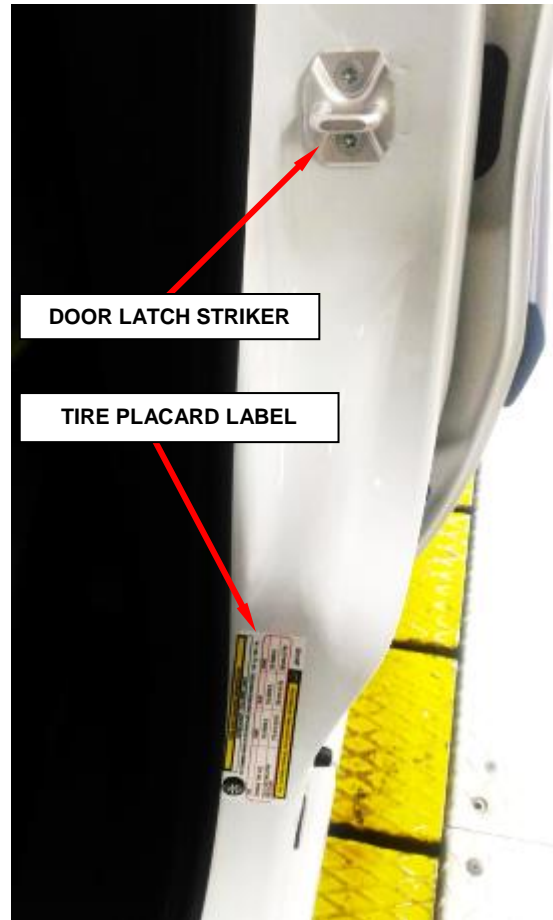

Figure 1 – Tire Placard Label Location
1. Open the driver side front door and locate the vehicle tire placard label on the door jamb below the door latch striker (Figure 1).
8. Apply the **new** tire placard label to the front driver side door jamb surface, in the original position, with the same text orientation (**wheel picture at bottom**) (Figures 1 and 6).